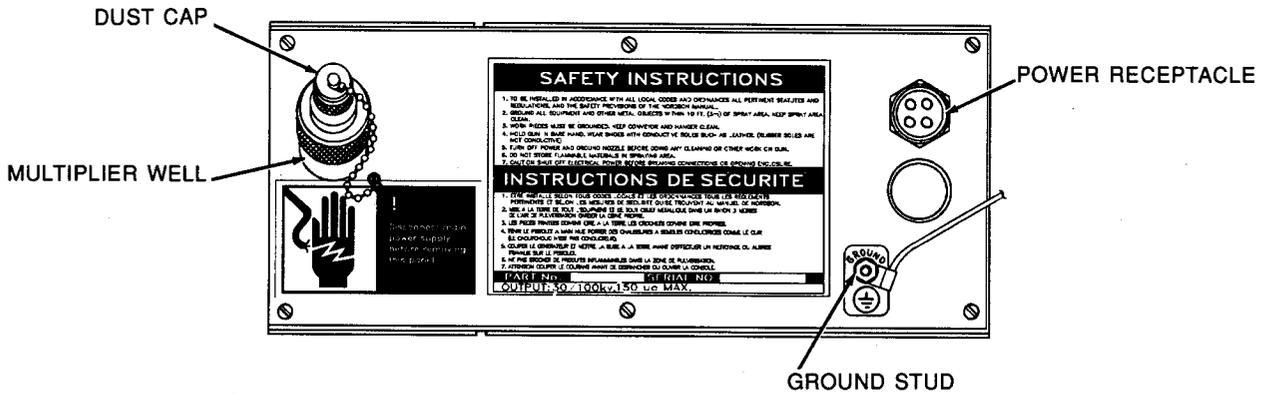

Figure 5 - Multiplier Module
Refer to Figure 5. The multiplier module contains a high voltage multiplier, power supply receptacle and ground stud.
3. Refer to Section 2, Figure 5. Connect ground strap furnished with power unit to ground stud on multiplier module. Secure the clamp to an earth ground. Ensure electrically conductive components of the system and all other equipment within 10 ft. (3m) of the spray area are properly grounded.
1. Refer to Section 2, Figure 5. Remove dustcap from multiplier well. Fill well with H.V. insulating oil (supplied with unit in two 7.5 ml tubes). Refer to Kit List in Section 8 for H.V. insulating oil part number.